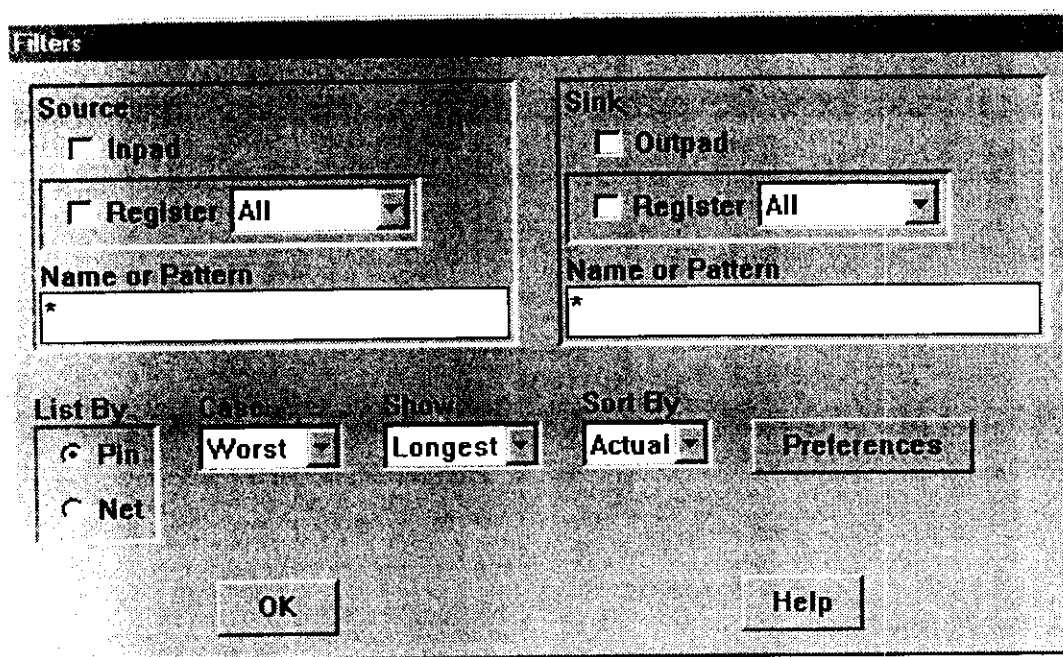

Figure 9. The DT Analyze Filters Window
1. From the Designer's flow chart, click the DT Analyze icon and again select Pre-layout .	The Filters window will open as shown in Figure 9. You will use this window to filter the data reported by the DT Analyze tool.